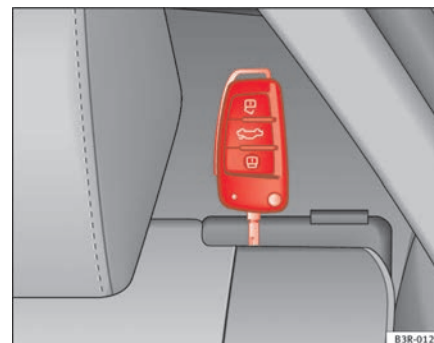

Fig. 119 Locking the backrest
- Turn the key anti-clockwise in the lock on the backrest release lever ⇒ page 141, fig. 119.